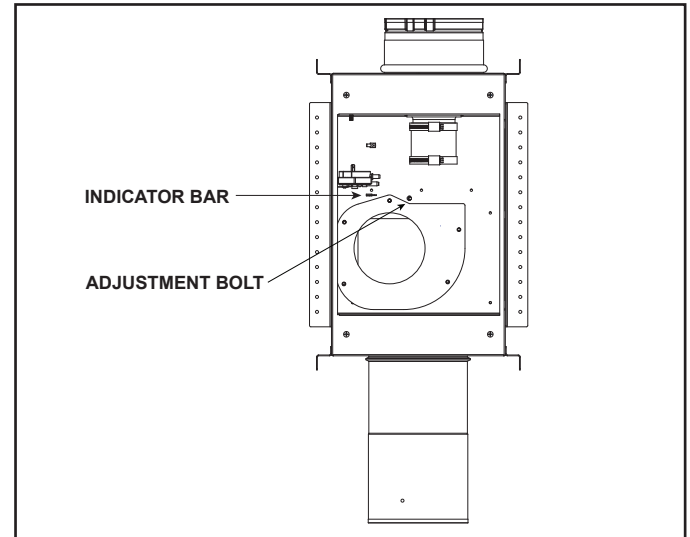

Figure 4.16 Baffle Adjustment Location - PVI-SLP-B
**PVI-SLP-B:** The baffle adjustment is measured using the holes on the indicator bar of the PVI-SLP-B baffle. This bar raises as the baffle is opened and lowers as the baffle is closed. Adjust the baffle by turning the screw located in the motor enclosure. See Figure 4.16 and 4.17.